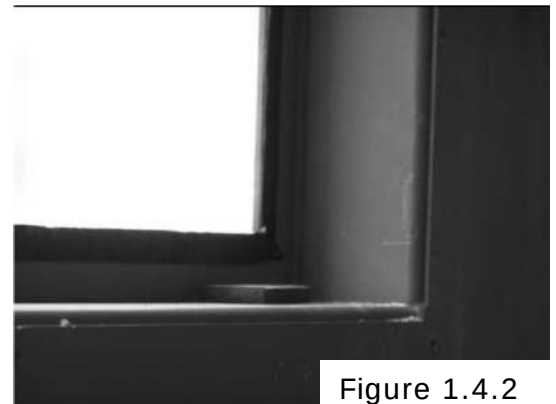

Figure 1.4.2
4. Place two setting blocks on the bottom window edge, one near each corner. (Figure 1.4.2)